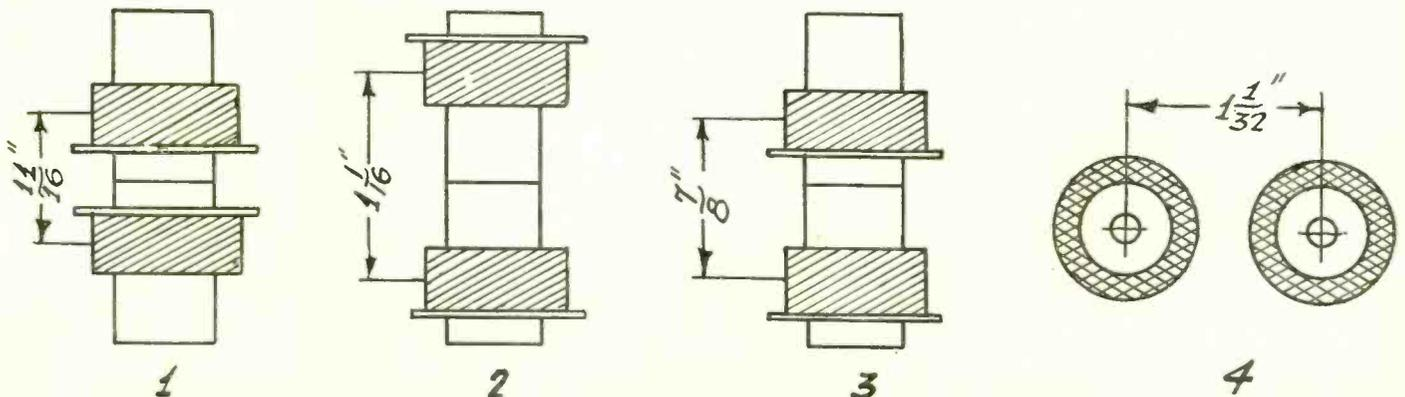
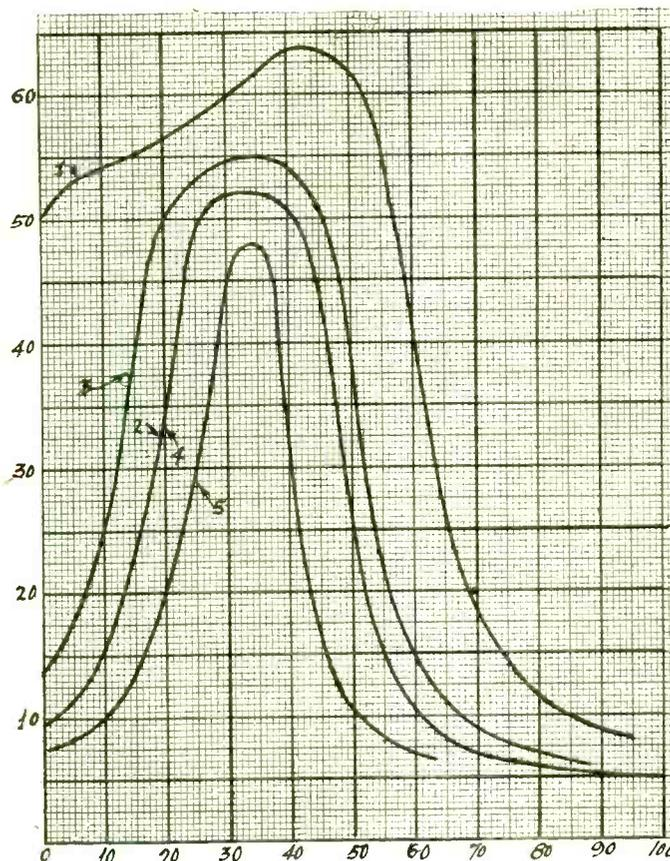

Fig. 2
Fig. 3
T1 is the oscillator transformer, which was made of two coils just like the coils under test and placed side by side as in position (4) of Fig. 2. The secondary alone of this transformer was tuned by means of the adjustable condenser C1.
The grid bias on the oscillator and on the screen grid tube was held at 3 volts. This was used because it gave maximum output under the other conditions of operation. The same voltage was applied on the plate of the oscillator as on the screen of the amplifier and was 67.5 volts. The plate voltage applied on the screen grid tube and on the output tube was 135 volts, and the grid bias on the output tube was 15 volts. Under these conditions the greatest output, as will be seen from the curves in Fig. 3 was slightly over 0.6 milliampere.
At first the coils under test were placed as at (1), Fig. 2, and the deflection on the meter M observed at every fifth division on the scale of the oscillator dial. The data thus obtained plotted into Curve 1, Fig. 3. Note that the centers of the coils were separated 1/16 inch, the closest they could be placed due to the extensions of the wooden cores.
When two tuned circuits are too closely coupled there are two points at which the output voltage is maximum. This is not well defined in the upper curve in Fig. 3, for one of the peaks is much lower than the other and the two almost merge. However, there is an indication of the second peak at 10 on the oscillator dial, where it prevents the rapid fall of the combined curve.
The second curve in Fig. 3, lowest but one, was obtained when the coils were placed as in (2), Fig. 2. The coils were placed end to end with the longer core projections toward each other. This made the distance between center and center one and 1/16 inches. This yielded excellent selectivity, the curve falling nearly as much and as rapidly on the upper frequency side as on the lower. There is no trace of the double maximum and we may assume that the coupling is less than the critical, which is the coupling at which the double peak just disappears.
Next the two coils were placed as in (3), Fig. 2, in which the center to center distance between the coils is 7/8 inch. The observations taken on this coupling yielded curve No. 3 in Fig. 3. The selectivity is considerably better than that for the first position but not quite as good as that for the second position. The maximum deflection occurs at 35 on the oscillator dial and it is 0.55 milliamperes, just 0.03 milliamperes more than the deflection at maximum for the lower curve.
In the first three positions of the coils they are concentric, or they are placed end-to-end with their centers on the same line. But the coils may also be coupled by placing them side-by-side with their center lines parallel. This placement is represented by Position 4 in Fig. 2. The distance between the two center lines is 1 1/32 inch, which was the closest they could be placed because of bakelite washers used for mounting the terminals of the coils. The resonance curve taken with this coupling coincided almost exactly with that for Position 2. They
Resonance curves obtained with the tester in Fig. 1 when the coils were placed in the positions indicated in Fig. 2. The abscissas are dial settings of a 100 mmfd. condenser in the oscillator and the ordinates the deflections in arbitrary units.